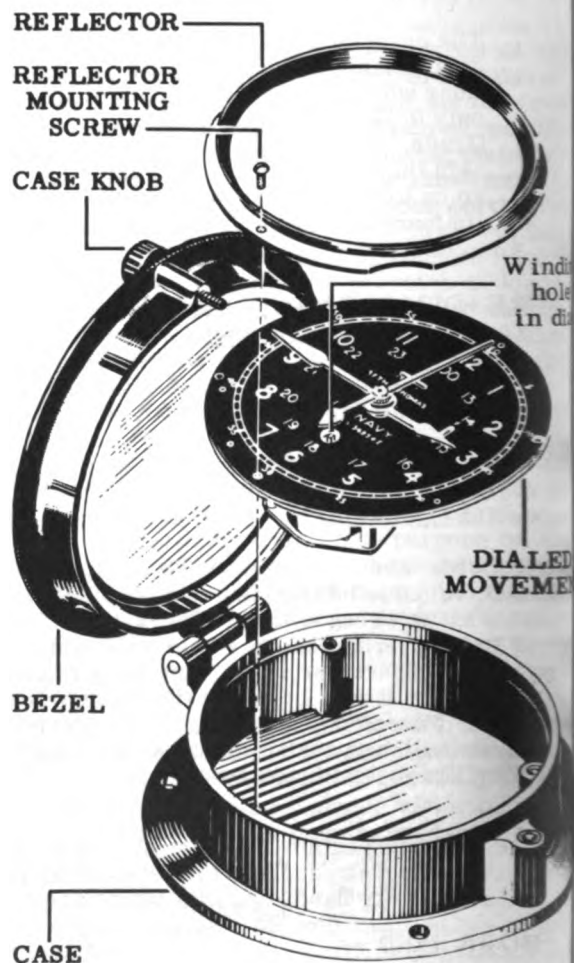

Figure 25
1. With the fingers, loosen the case knob (see Fig. 25) on the side of the bezel until the bezel can be swung open. The bezel need not be removed—it should just be turned completely out of the way of the dial.
2. Unscrew the three reflector mounting screws (see Fig. 25) which hold the reflector onto the dial and which hold the dialed movement in the case.
3. Place a winding key or a mainspring let down key (Tool No. 5A) through the dial winding hole and over the squared end of the barrel arbor. See Fig. 25. With a tilting and lifting motion of the key, lift up on edge of the dial so that it can be grasped with the fingers.